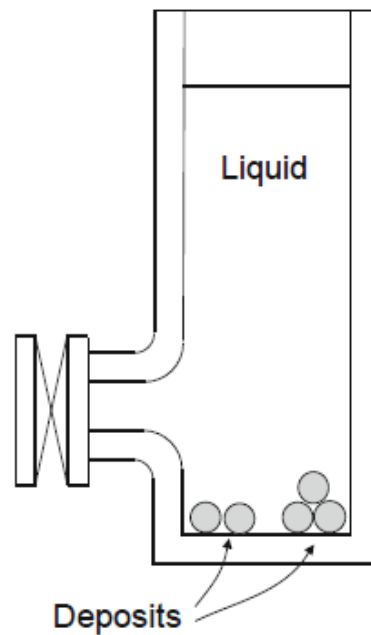

Figure 6: Discharge valve
- (b). The discharge valve as illustrated in Figure 6 is not preferred from the point of corrosion prevention.